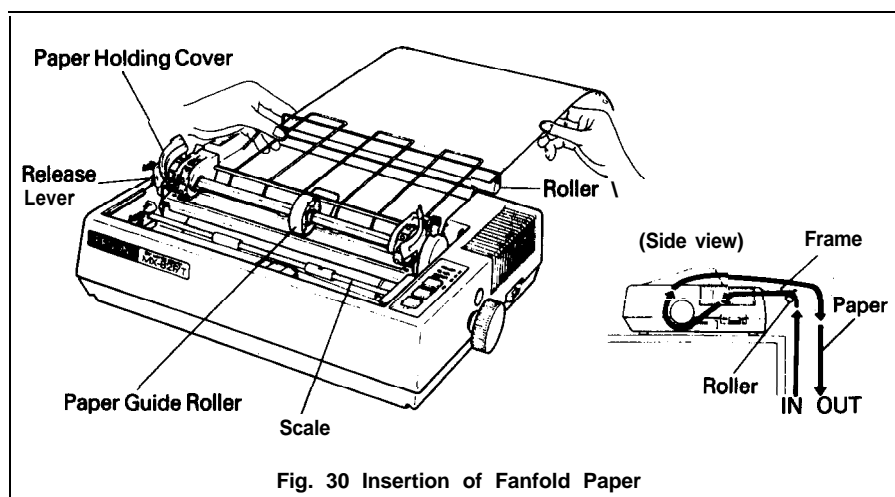

Fig. 30 Insertion of Fanfold Paper
2. Unlock the release lever by pulling it in the direction of the arrow. (See Fig. 30)
5. Raise the two paper holding covers, and be sure to insert the fanfold paper between the frame and plastic roller of the separator. (See Fig. 30)